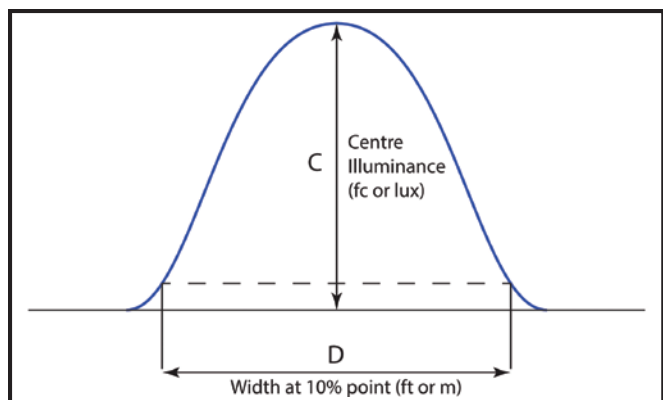

Figure 3 – Real light beam
**Figure 3** shows a possible situation.